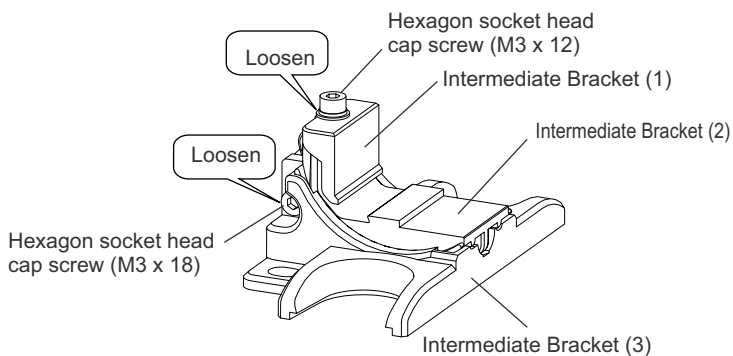

Figure 15
1. Loosen the hexagon socket head cap screws (M3 x 18) of Intermediate Bracket (3) and change the direction of Intermediate Bracket (2) according to its mounting direction. (Figure 15 and 16)